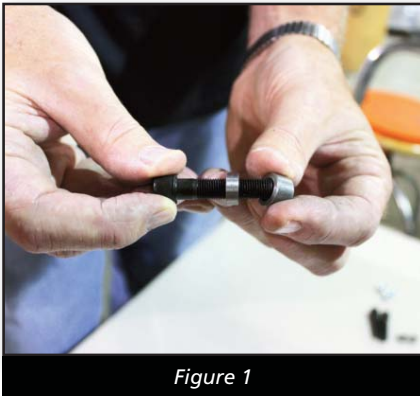

Figure 1
- **ASSEMBLY HUB:** On three (3) 2" long bolts place the larger spacers as shown (See figure 1).